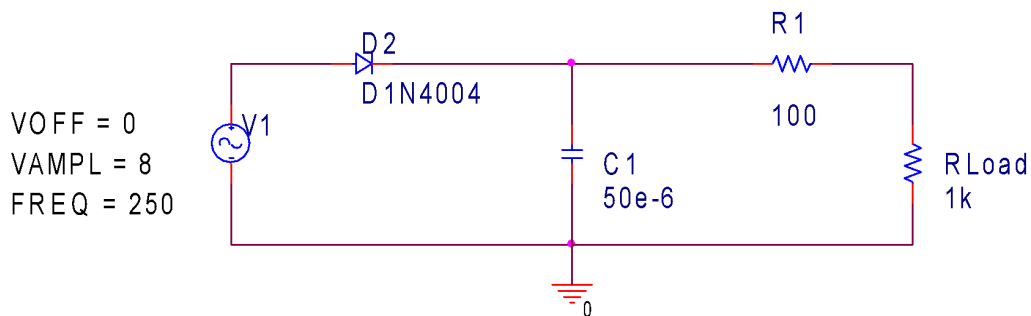

Figure 4: Diode circuit
2. Implement in Spice the half-wave rectifier circuit shown below (Figure 4). Use a source voltage V_1 with $V_{\text{Offset}} = 0$ V, $V_{\text{Amplitude}} = 8$ V, and $f = 250$ Hz.